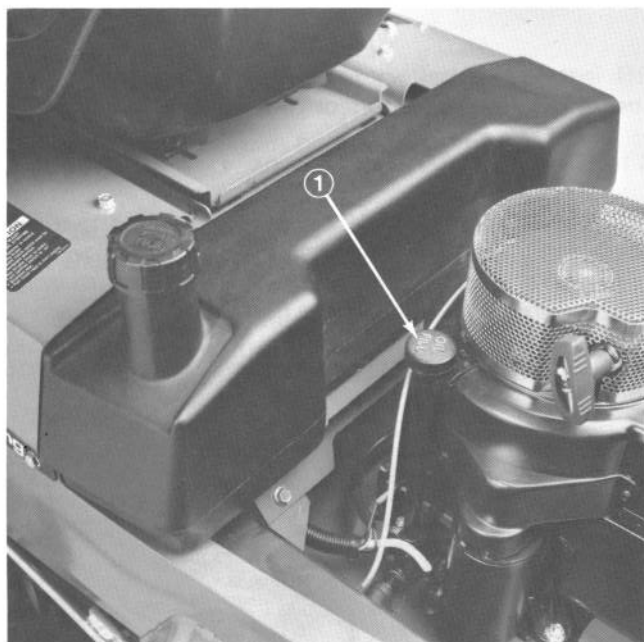

Figure 8
2. Unscrew and remove the dipstick from the oil fill tube (Fig. 8).
2. Remove cap from fuel tank (Fig. 8) and fill tank with gasoline up to about one half inch from top of tank, not the filler neck. Then reinstall fuel tank cap.